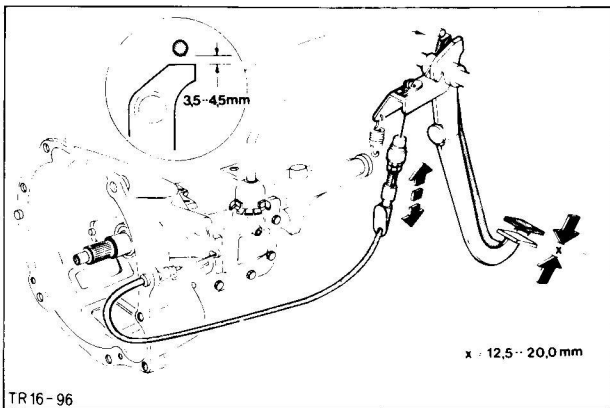

Fig. 143. Clutch play adjustment
8. Fit rubber cable seal in bulkhead panel. Adjust clutch play as specified, Fig. 143.